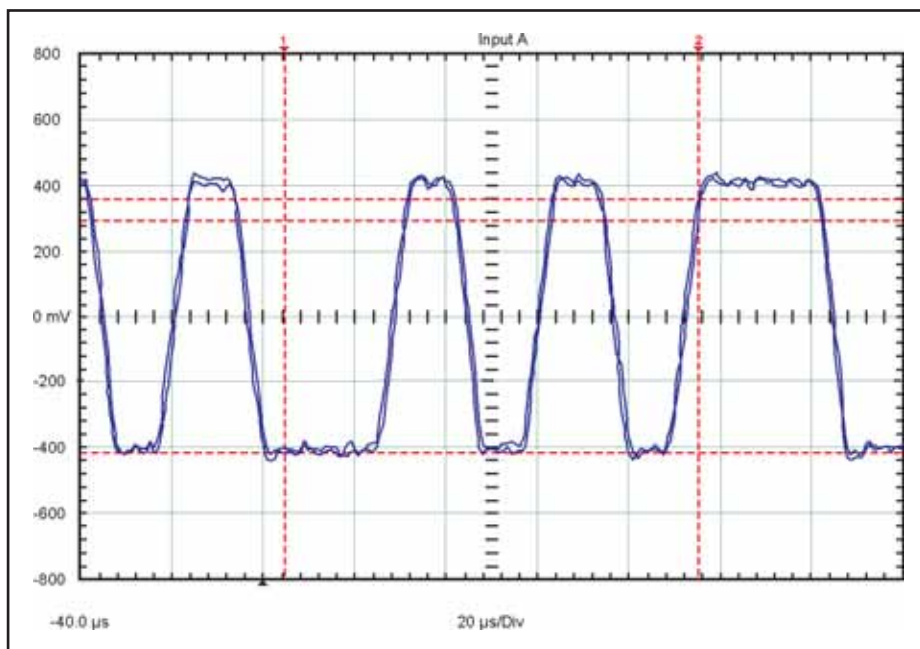
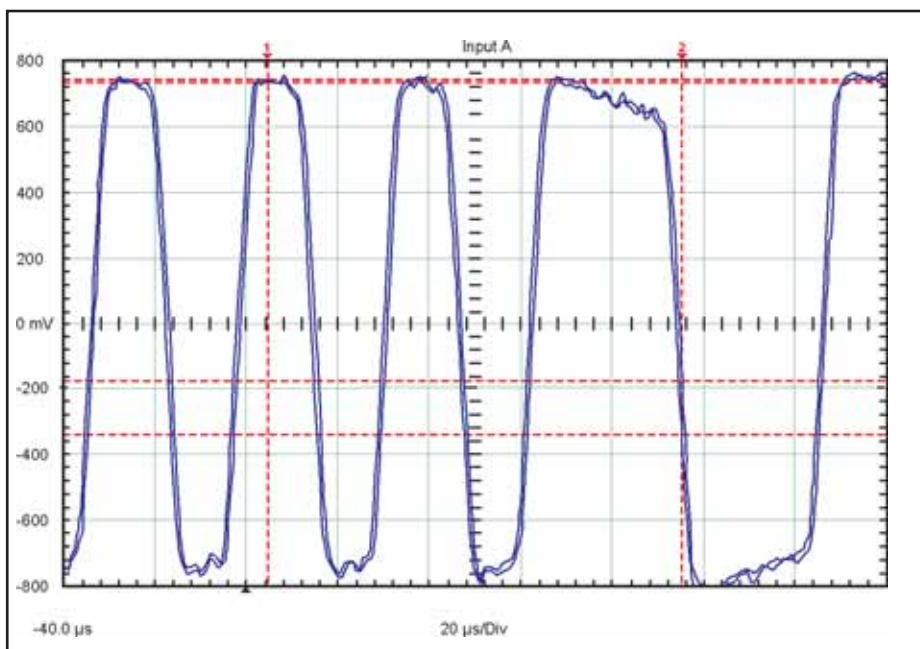

Figure 2: This ideal waveform indicates the device is communicating properly, with a peak-to-peak voltage of approximately 800 mV.
Figure 3: This waveform indicates one missing terminator, with a peak-to-peak voltage of approximately 1.5 V.
*Figure 2* shows an ideal waveform. *Figure 3* shows what the waveform will look like with one missing terminator. Notice that the voltage levels have increased. If both terminators are missing, the peak-to-peak voltage will be even higher.